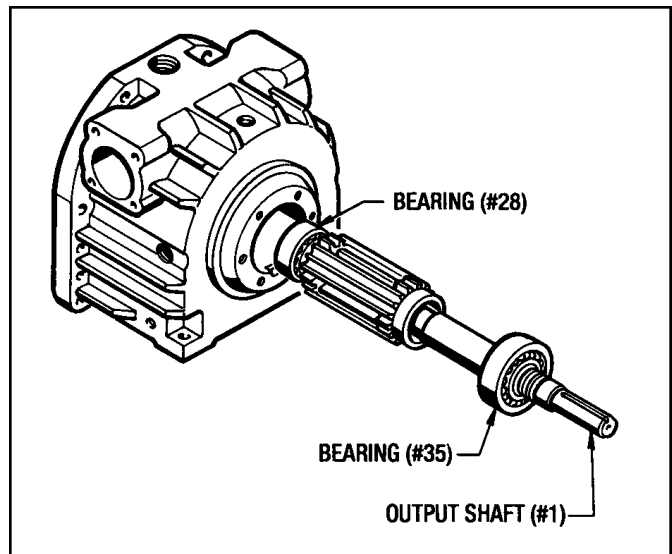

Figure 7.14 - Removing The Output Shaft
2. Remove (6) Screws (#63) and (6) Washers (#126) and carefully remove the Bearing Retainer(#7) so the oil seal lip is not damaged.
5. Using a rubber mallet, tap on the back of the Output Shaft (#1) until the Bearing (#35) comes out of the bearing bore. Pull the Output Shaft (#1) and the Bearings (#28 and #35) out of the front of the housing. (See Figure 7.14)